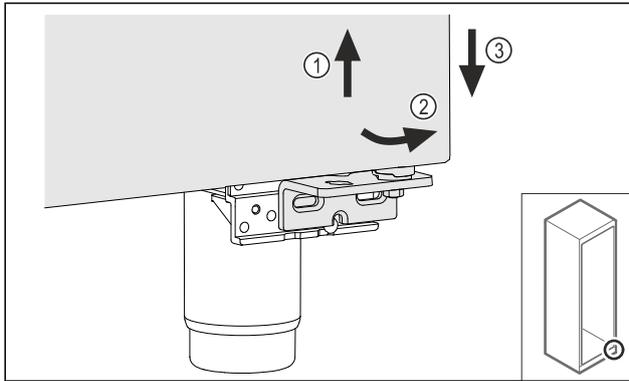

Fig. 19
- ▶ Lift the door slightly Fig. 19 (1), tilt it forwards at the bottom Fig. 19 (2) and lower it Fig. 19 (3).